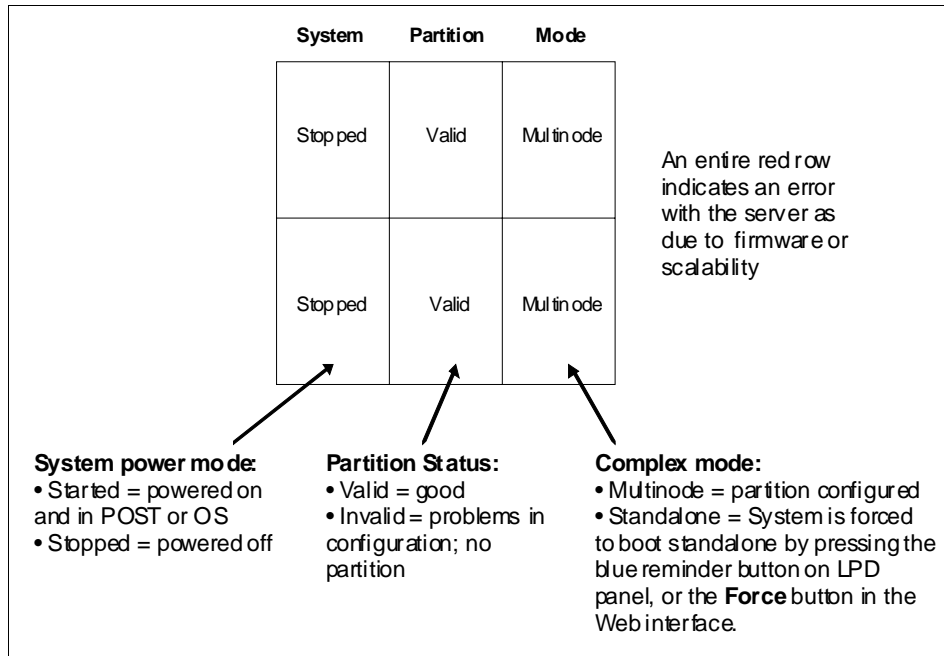

Figure 4-25 RSA II Web interface: complex status
The section on the right side in Figure 4-18 on page 220 (and also shown in Figure 4-25 on page 225) indicates:
4. Check the system and partition states on the right side of the Scalable Complex Management panel (shown in Figure 4-18 on page 220 and Figure 4-25 on page 225). The states should indicate: